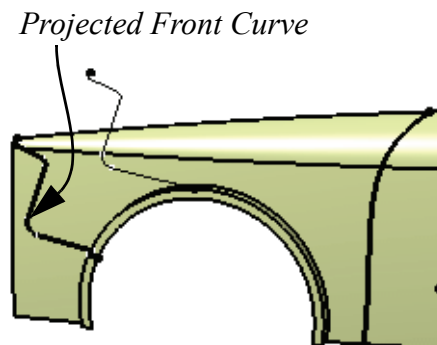

Figure 1-65
6. Repeat Step 4 using **Front Project Sketch**. Rename the projected curve as [Projected Front Curve]. The model displays as shown in Figure 1-65.